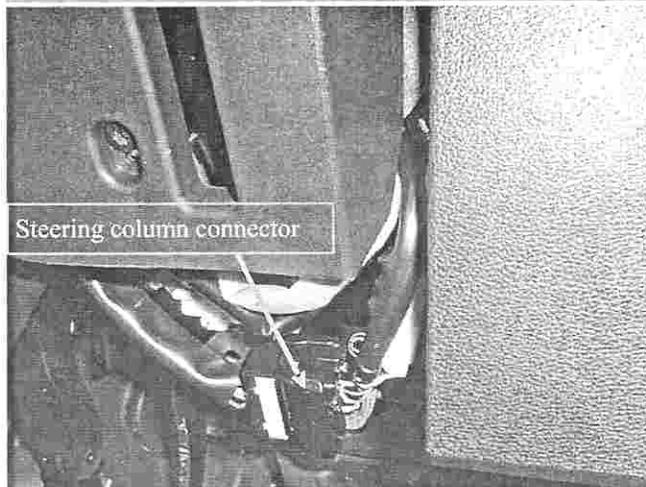

Fig 16. Fuse panel cover re installed and steering column connector secured.
31. Replace the fuse panel cover. Make sure there are no areas where the installed wiring loom can be seen once the fuse panel cover is reinstalled. Refer Fig 16.
32. Place the Owners Operating Instruction Card (item 10) into the glove box.